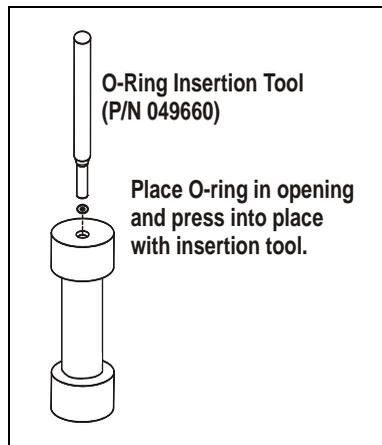

Figure 3-9. Installing a Cell End Cap O-Ring
- If an O-ring is missing, place a new O-ring over the opening in the end of the cell end cap. Press the O-ring into place, using the O-ring insertion tool (see Figure 3-9). For part numbers for O-rings, see Appendix D.
3. Place a new O-ring (PTFE: P/N 049457, pkg. of 50; Viton: P/N 056325, pkg. of 50) over the opening in the end of the cell end cap. Press the O-ring into place, using the O-ring insertion tool (see Figure 3-9).
3. Place a new O-ring (PTFE: P/N 049457, pkg. of 50; Viton: P/N 056325, pkg. of 50) over the opening in the end of the rinse tube. Press the O-ring into place, using the O-ring insertion tool (see Figure 3-9).